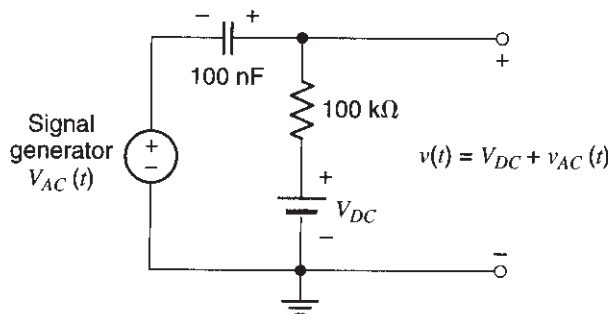
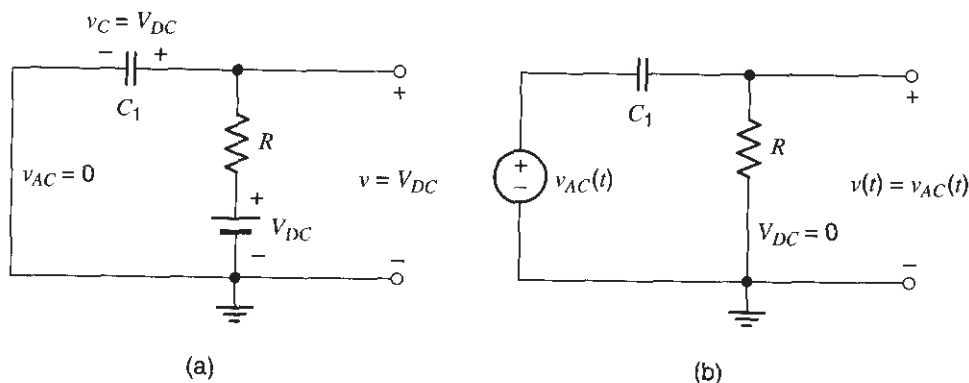

Fig. 3
Fig. 4
1. Hook up the circuit of Fig. 1, using connections as short as possible, and with the voltage of PS1 set to zero for now. The chip that will be used in this experiment is the CD4007, the same chip used in the first half of Experiment 11. Fig. 3 of that experiment shows the pin assignment for the transistor we will be using. The circuit of Fig. 1 will be used in the following steps to investigate the use of a MOSFET as an amplifier.
12. Consider the circuit of Fig. 3. It contains a DC source  $V_{DC}$  and an AC source  $v_{AC}(t)$ . The output voltage of the circuit is affected by both of these voltages. If the frequency of the signal is much higher than  $1/(2\pi RC)$ , the output of the circuit will almost be  $v(t) = V_{DC} + v_{AC}(t)$ , as indicated in the figure. To see this, consider the effect of each voltage source in the circuit by itself, as explained below.
Assume, first, that  $v_{AC}(t) = 0$ ; this is equivalent to assuming that the signal generator is replaced by a short circuit, as shown in Fig. 4(a). Then the capacitor charges up to the DC voltage value, that is,  $v_C = V_{DC}$ . Using Kirchhoff's voltage law, we conclude that, in the steady state,  $v = V_{DC}$ , as indicated in the figure.
Assume now that the DC voltage in Fig. 3 is zero instead; this is equivalent to assuming that the DC source is replaced by a short, as shown in Fig. 4(b). The capacitor and resistor now form a high-pass filter with cutoff frequency  $1/(2\pi RC)$  (see Experiment 7). If the frequency of the signal is much higher than this, the signal will pass to the output; in other words,  $v(t) = v_{AC}(t)$ , as indicated in the figure.
Since the circuit is *linear*, superposition will apply: When *both* voltage sources in Fig. 3 are active, the output voltage will be the sum of the individual results in Figs. 4(a) and (b), that is,  $v(t) = V_{DC} + v_{AC}(t)$ , as indicated in Fig. 3. Thus, we have a circuit in which the AC voltage is coupled to the output through the capacitor (which is, for this reason, called a *coupling capacitor*) and is added to the DC voltage. At the same time, the capacitor blocks the DC voltage from reaching the AC source.
Hook up the circuit of Fig. 3. (CAUTION: It is unlikely that the 100 nF capacitor will have polarity indicated on it, but if it does, make sure to observe it, as shown in Fig. 3.) Use a DC voltage of 2 or 3 volts and a signal voltage with an amplitude of about 0.25 V and a frequency of 1 kHz. [Is this frequency much higher than
- Remove PS1 from the circuit of Fig. 1, and instead use the circuit of Fig. 3 to produce the voltage  $v_{GS}$ , as shown in Fig. 5 (for now, set the signal amplitude to 0). The resistor shown connected across the output is meant to indicate any load the amplifier is supposed to drive; for our purposes, this load will be just a scope probe. The probe has a large input resistance (typically  $1\text{ M}\Omega$ ) and can be connected there without disturbing the operation of the amplifier. Capacitor  $C_2$  is a coupling capacitor, which allows the AC variation of  $v_{DS}$  to appear across the load but blocks the DC value of that voltage. Essentially,  $C_2$  forms a high-pass filter together with the load resistance. This filter passes the (high-frequency) AC variation of  $v_{DS}$  to the load but rejects the DC (i.e., zero-frequency) part of  $v_{DS}$ . (In the unlikely event that the capacitors indicate polarity on them, make sure to observe it, as shown in Fig. 5.)